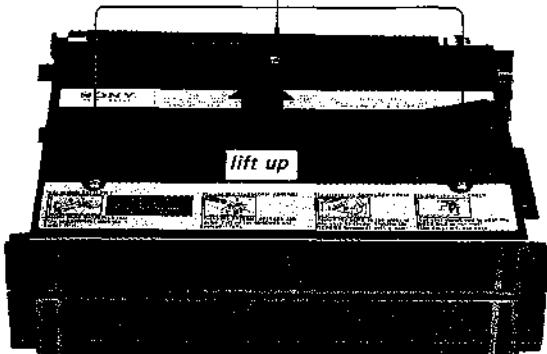

Fig. 2-3.
1. Remove the three screws labeled **C** in Fig. 2-3.